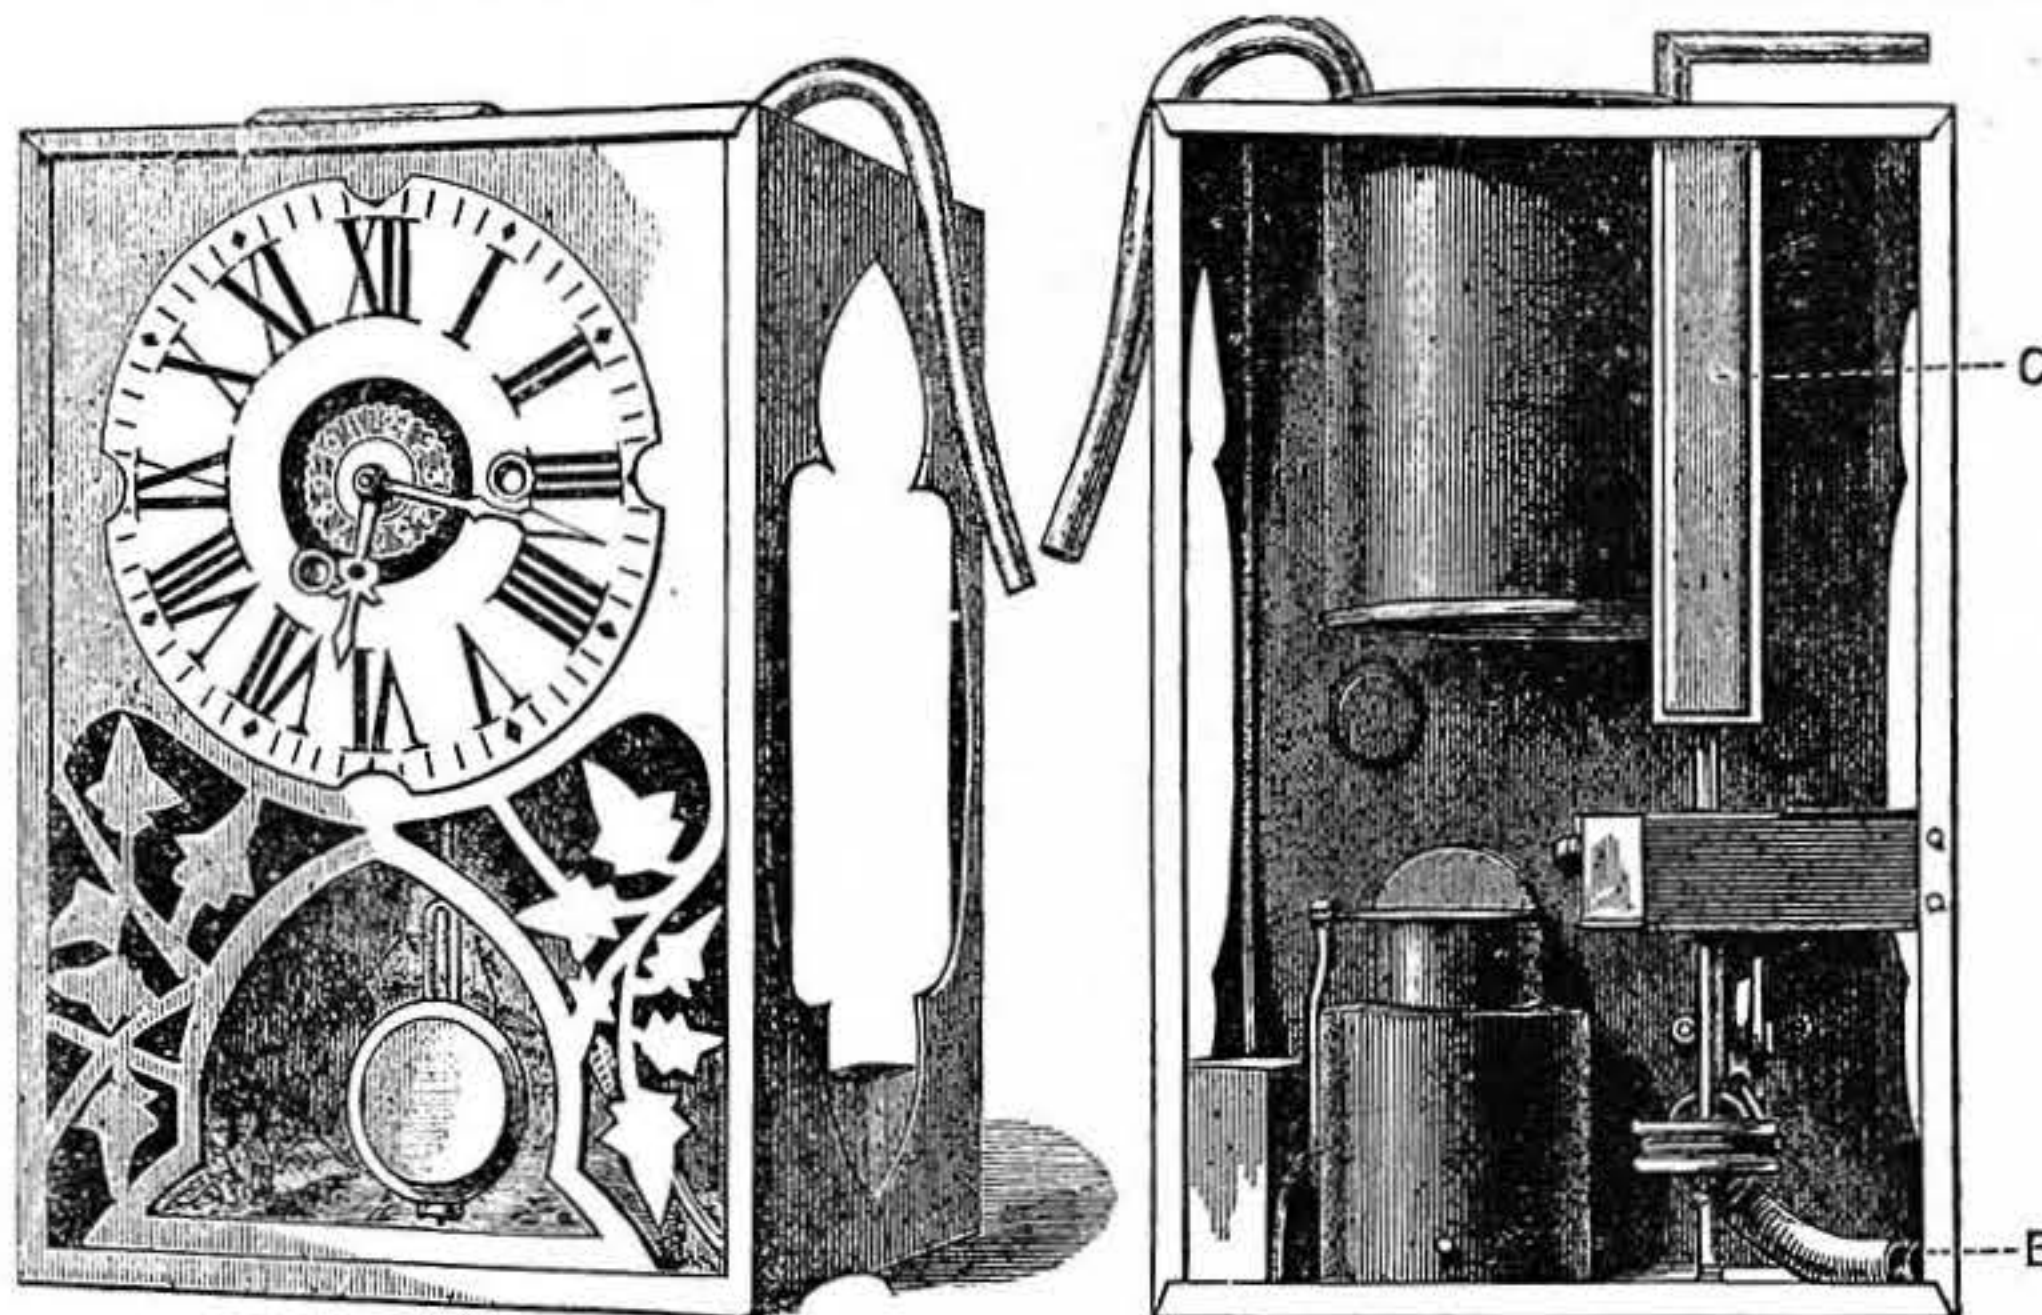
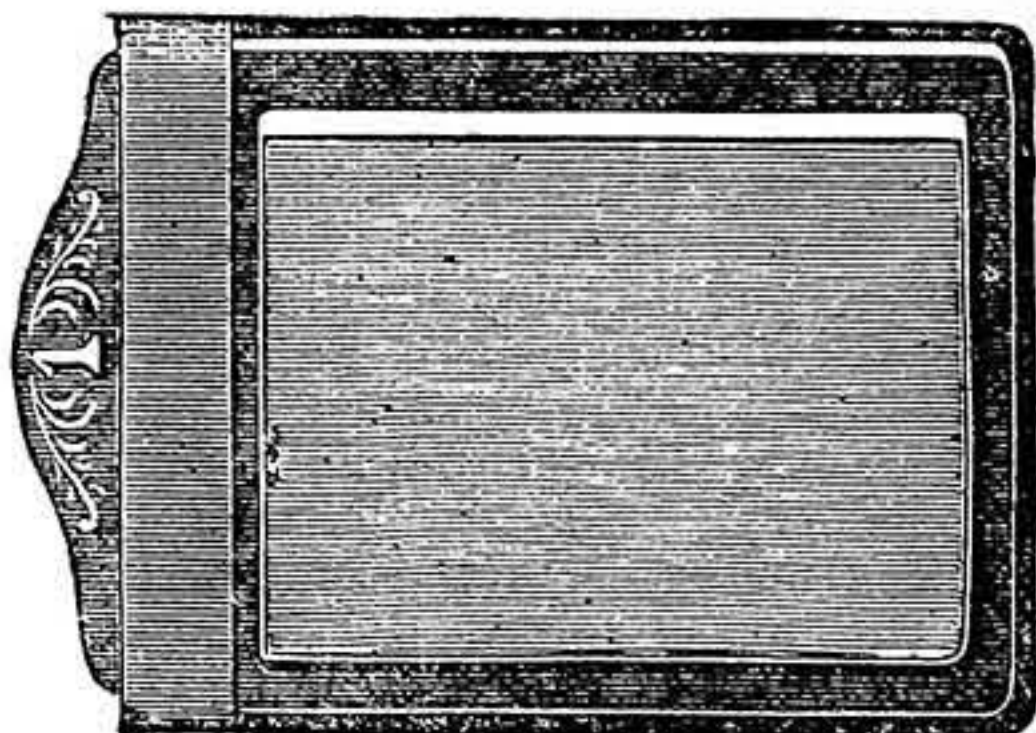
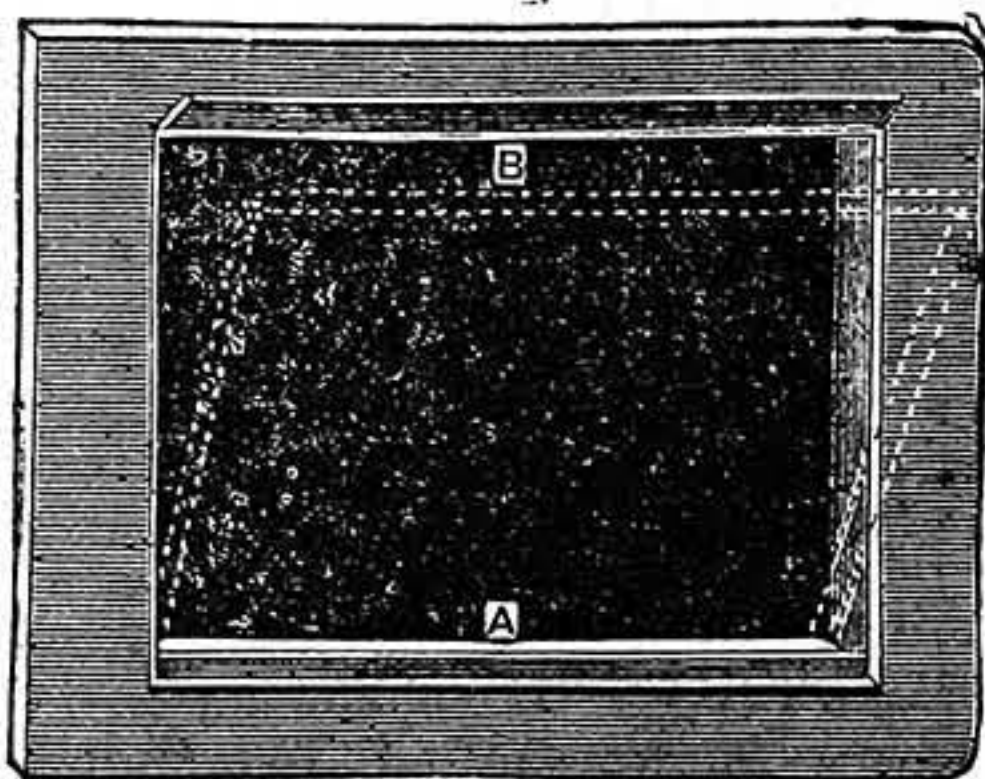

Fig. 1.—Apparatus complete. Fig. 2.—Back of ditto; B, Check Spring; C, Angle-piece.
Fig. 2.—Tylar's Single Metal Dark Slide : Shut.
Fig. 3.—Tylar's Single Metal Dark Slide : Open.
Fig. 1 represents the complete apparatus, the dimensions being: height, 8 in.; width, 5½ in.; depth, 5½ in. externally, and is taken from a photograph of one in use, and made by the writer. The outer part or case is made of tinfoil. The internal fittings are of wire and tin of the simplest kind, so that anyone capable of "jobbing" tin work may undertake the work with every probability of success. The clock part is an ordinary alarm clock, known in the trade as a "Cottage Alarm," and can be bought through any clock dealer, or direct from Messrs. Meyer, Aldersgate Street, E.C., for about 3s. 6d. This will be found a serviceable article. When purchased, it will be in a wooden case, which will of course be dispensed with and put to some other use.
strike a match in such a position that the match will ignite a spirit lamp under a small boiler, the water of which will run out as soon as it boils into a tea or coffee pot, and at the same moment sound a shrill call with a whistle on the boiler. The writer has endeavoured to arrange the parts so that they occupy a comparatively small space, and that the case shall present a fairly ornamental appearance, the front (Fig. 1) being a design cut out of zinc with the fret-saw, and the dial of clock let in behind, the whole sliding up the groove referred to in case (Fig. 3).
Fig. 3.—Plan of Top of Case. Fig. 4.—Match-holder and Support (half full size). Fig. 5.—Pulley-wheel (full size), with Wire and Screw. Fig. 6.—Section of Lamp with Sliding Cover pivoted at S. Fig. 7.—Carrier for Friction Surface (full size): the Dotted Lines show where Edge of Metal is turned up. Fig. 8.—Section of Steam Whistle (full size). Fig. 9.—Boiler Pipe and Whistle.
This new invention of Mr. William Tylar, 57, High Street, Aston, Birmingham, and one of his most recent additions to his already large stock of photographic novelties, is specially designed for use in detective cameras, although there is nothing about it to prevent its use, generally speaking, in cameras so constructed as to admit of the use of dark slides. Its construction will be recognised from the accompanying illustrations, of which Fig. 2 represents it with the slide in or closed, and Fig. 3 with the slide withdrawn or open. To the back of the flat frame, which is shown in front, is attached a sheet of metal, moulded in the form of a shallow tray, and the slide or shutter works closely but not too tightly and stiffly in the groove, formed by the back of the frame and the upper surface of the margin of the back, rendering the dark slide absolutely light-proof. Below the groove, two projecting pieces of metal are attached to the sides of the
rim of the so-called tray. That at A is fixed, and one side of the plate, which is dropped in from the front, as shown by the dotted lines in Fig. 3, is pushed under it. The slip at B lifts up, as shown in the illustration, and is closed down on the plate, thus holding it in position. Every slide and every shutter are interchangeable. They are supplied as  $\frac{1}{4}$  plate slides, at 15s. per dozen: or at 20s. in a sling canvas case with focussing screen register. Mr. Tylar sends with this cheap and excellent machine-made slide a little finder for detective cameras, in the form of a small triangular
**Melting Brass.**—NO NAME.—Figs. 1 to 4 illustrate the standard type of brass-melting furnace. Fig. 1 is a vertical section, through one of the furnaces and the chimney. Fig. 2 is, on the right-hand side, a section through the right-hand furnace (x x in Fig. 3, and z z in Fig. 1); and, on the left-hand side, a view in front of the left-hand furnace, seen from the ash-pit (y y in Fig. 3). Fig. 3 is a general plan; Fig. 4 a view of the cover. In these figures, A, A, are the melting holes or furnaces, measuring from 12 in. to 18 in. square, according to the amount of metal that requires to be melted. A 14 in. or 15 in. hole will take a pot with a melting capacity of 50 lbs. or 60 lbs. The depth of the furnaces will range from 2 ft. to 2 ft. 6 in. It is essential to give ample depth, in order that the crucible shall be entirely enclosed in the fuel. The reason why furnaces are built in twos or threes, is to get sufficient melting capacity for heavy casts; or even where that is not the case, to be able to use one furnace while the other may be undergoing repairs. Still, if you are an amateur, and intend only to melt brass for your own use, a single furnace will suffice. Underneath the furnace is the ash-pit (B) and the opening (B') through which the ashes are raked into the front area (C). In Figs. 1 and 2, the line D D represents the level of the stone or brick floor, into which the furnaces are built. The ash-